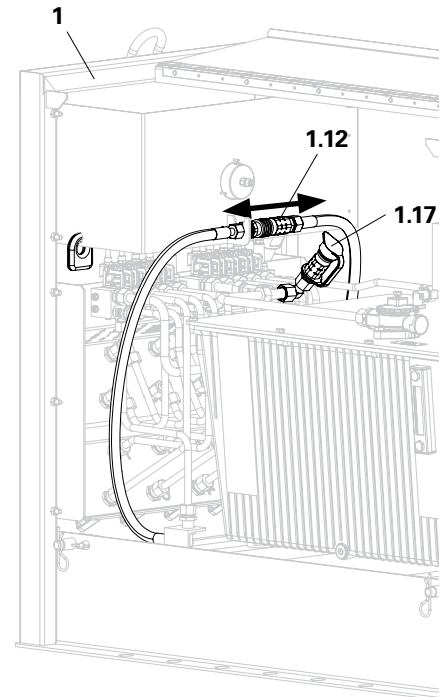
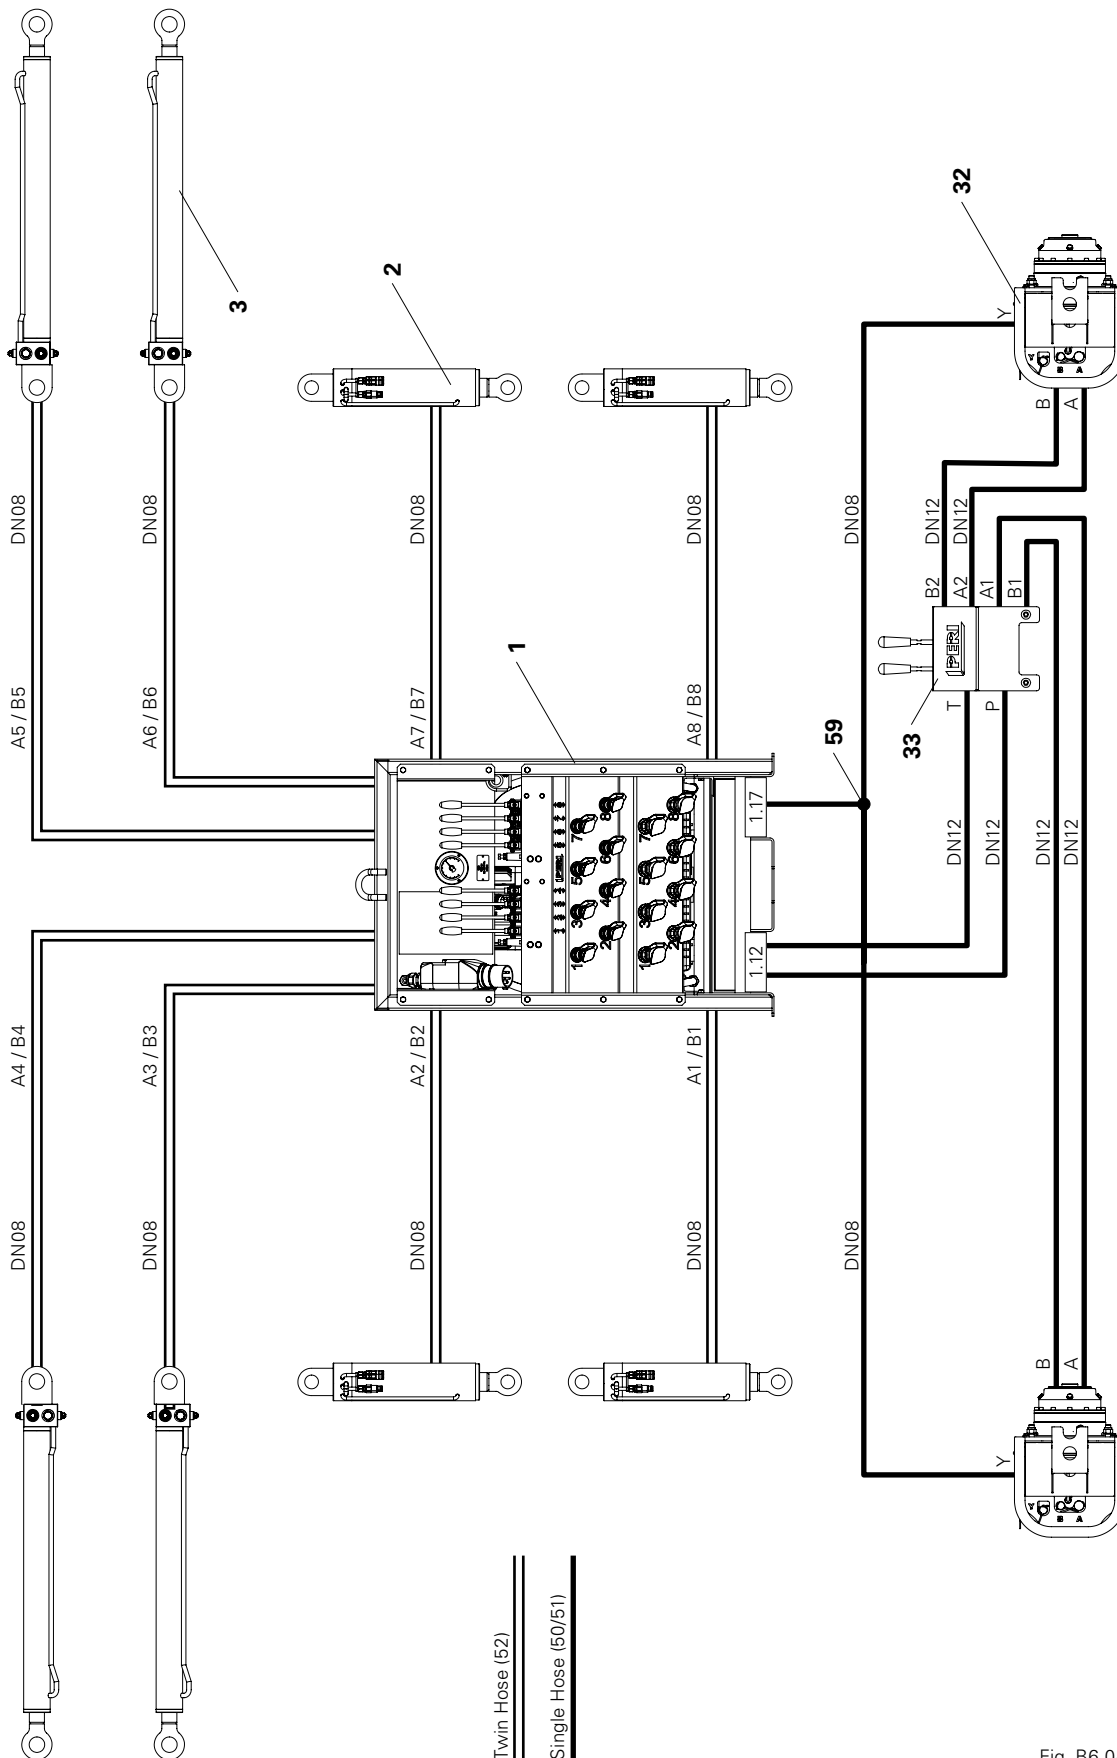

Fig. B6.03
Fig. B6.04
1. Open the hydraulic pump (1). (Fig. B6.03)
6. Connect the hydraulic T-Piece DN08 (59) to the leakage oil connection and guide the two hose ends forwards out of the hydraulic pump.
7. Connect the hydraulic drive in accordance with Fig. B6.04.
2. Connect the hydraulic cylinders (2 + 3) in accordance with Fig. B6.04 to the hydraulic pump (1).